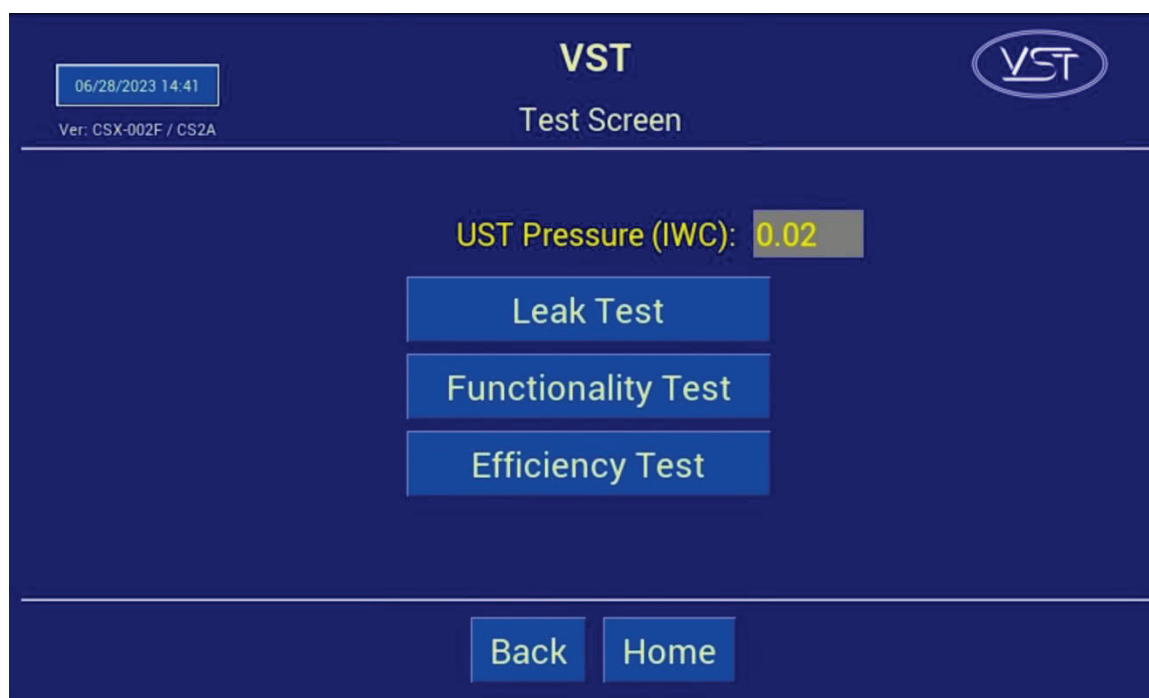

Figure 7-5: Test Screen
2. Select the Functionality Test from the menu. **See Figure 7-5.**